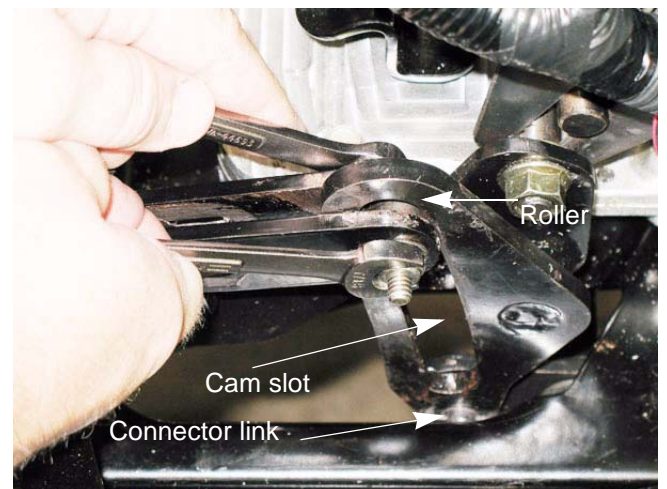

Figure 6A.19
- 2b. Remove the nuts and bolts connecting the transmission linkages to the levers on the steering gear box. See Figure 6A.19.